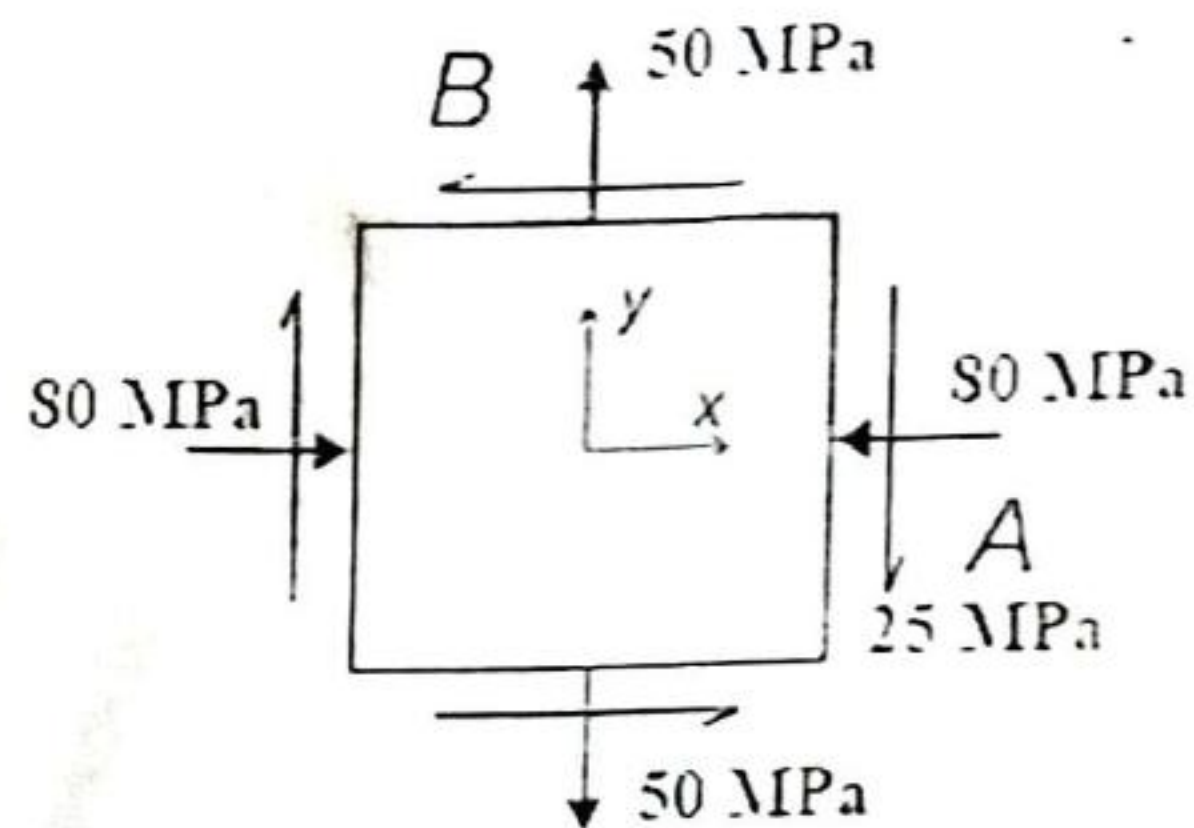

Fig. 2
4. The state of plane stress at a point is represented by the stress element below (Fig.2). Determine graphically